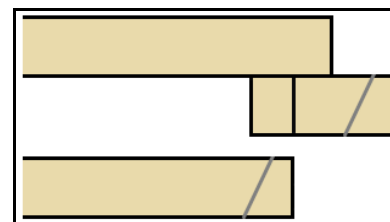

FIGURE 12
- ⇒ The final step for the base is to drill the holes for the stakes. These need to be drilled on an angle, as shown by the grey lines in *figure 12*. Drill one hole in each of the feet, and one hole near each beveled end of the bottom board, angling them toward the center of the base. The actual diameter of these holes should be slightly larger than your stakes (see below). The stakes should go through the holes easily, but without too much play in them.